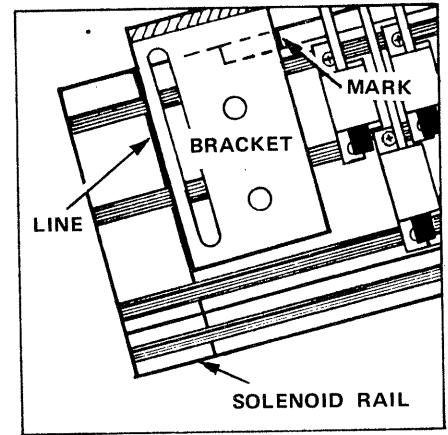

FIGURE 5-7 Align the bracket with the line on the rail and mark the lip on the rail.
A. Place one of the brackets against the LEFT end of the rail as shown in FIGURE 5-7. Align the OUTSIDE edge of the bracket with the line drawn on the rail as indicated in the Figure. If the INSIDE edge of the bracket rests on the lip at the top of the Solenoid Rail, use the edge as a straightedge and draw a line to mark the lip as shown in FIGURE 5-7. This mark indicates the amount to be trimmed from the lip of the rail so the bracket will fit.